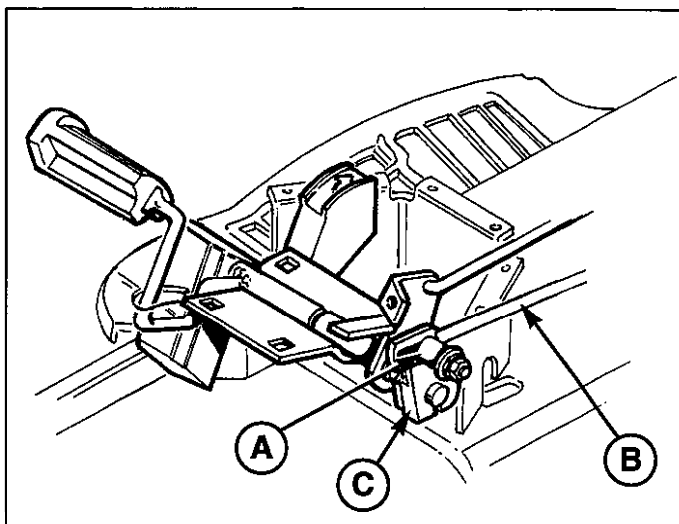

Figure 21a. Forward Speed Adjustment - Hydro
3. With pedal in this position, tighten the nut (A, figure 21a).